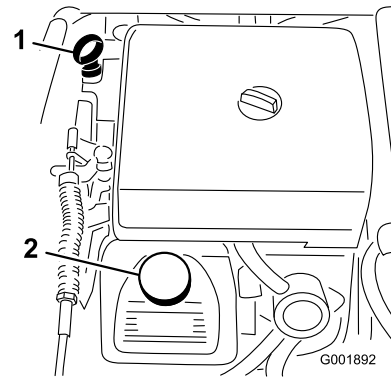

Figure 46
2. Remove the dipstick and wipe it with a clean rag (Figure 46). Insert the dipstick into the tube and make sure it is seated fully. Remove the dipstick and check the oil level.
3. If the oil level is low, remove the filler cap from the valve cover (Figure 46) and pour oil into the opening until the oil level is up to the Full mark on the dipstick. Add the oil slowly and check the level often during this process. Do not overfill.
- Slowly pour approximately 80% of the specified amount of oil into the oil filler tube (Figure 46).